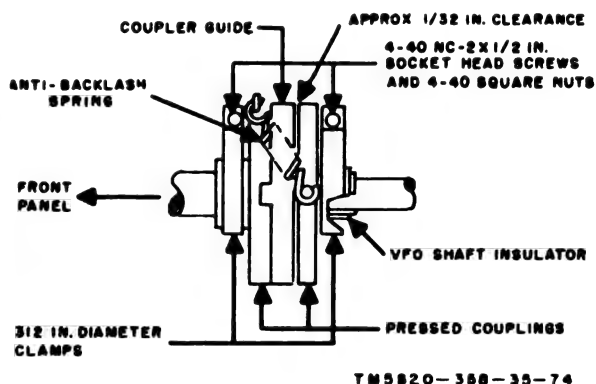

Figure 70. Oldham coupler details.
- (1) Preset the receiver (para 36). Turn the FUNCTION switch to MGC. Allow 15 minutes for warmup.
- (2) Tune the receiver to station WWV or a local station of known frequency. Be sure to set the frequency indicator exactly to the station's assigned frequency.
- (3) Turn the BANDWIDTH switch to .1.
- (4) Remove the antibacklash spring on the Oldham coupler (fig. 70) and loosen the vfo (fig. 37) shaft clamp nearest the front panel.